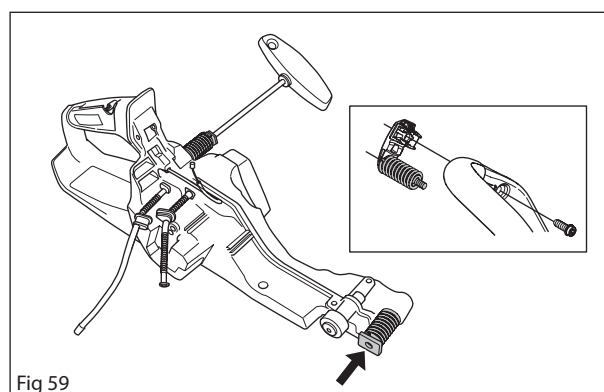

Fig 59
2. Dismantle the spring on the handle bar using a 4 mm Allen key (see figure 59).
3. Dismantle the springs on the tank unit using a 4 mm Allen key (tool 502 50 18-01). See figure 59.